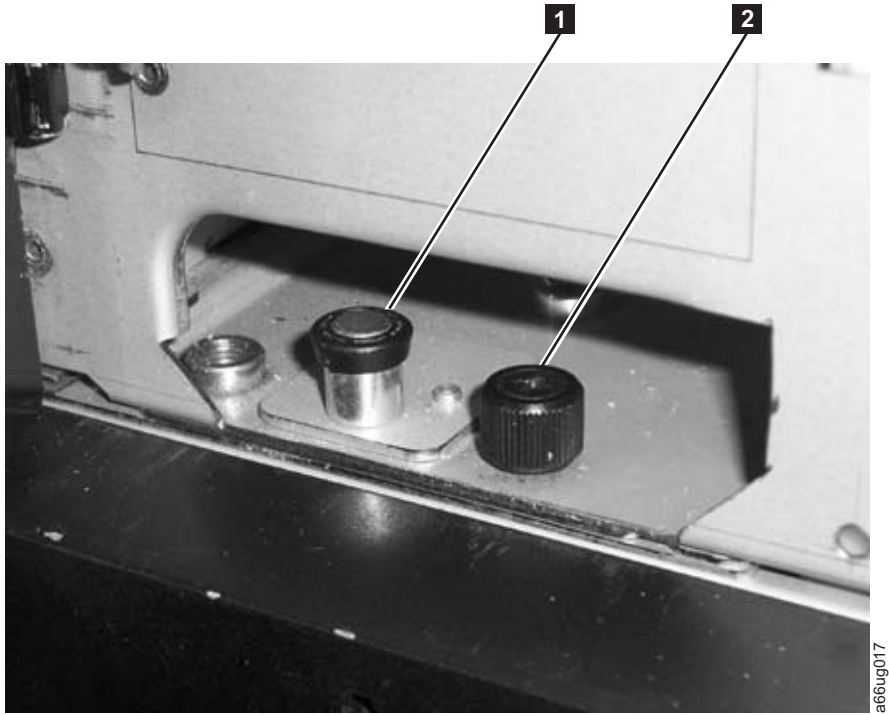

Figure 3-28. Module-to-module alignment pin and front thumb screw
3. Ensure that the module-to-module alignment pin (**1** in Figure 3-28 on page 3-26) is in the raised position. If necessary, raise the pin and rotate it half a turn to lock it in the raised position.
9. Twist the upper module alignment pin (**1** in Figure 3-28 on page 3-26) to unlock it from the up position.
11. Tighten the front thumb screw (**2** in Figure 3-28 on page 3-26) and the thumb screw behind the I/O station door to secure the front of the upper module to the lower module.